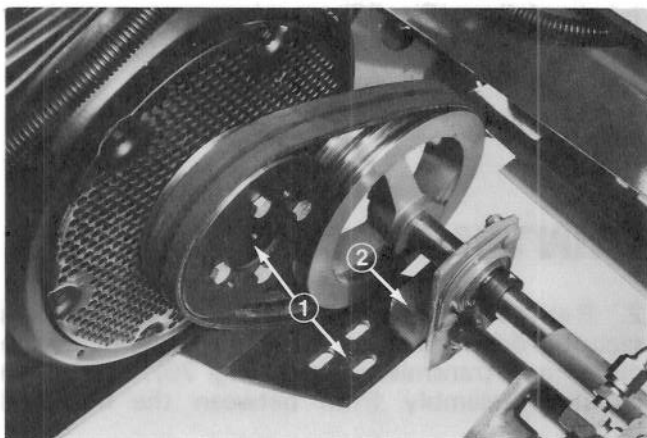
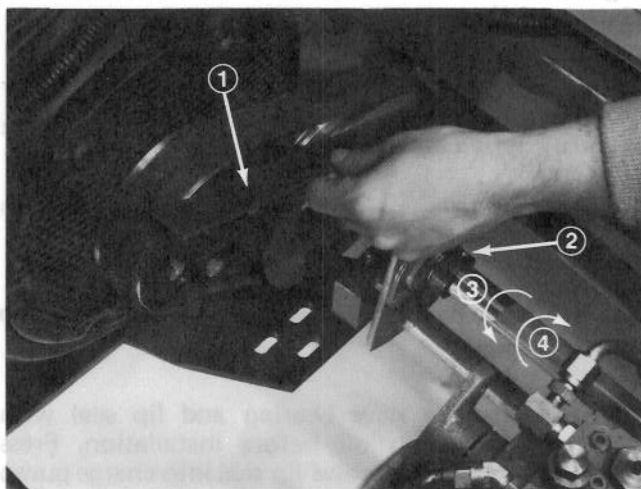

Figure 77
Figure 78
3. Remove three capscrews, flatwashers, lockwashers and nuts securing PTO brake bracket to mounting flange on engine plate (Fig. 77).
4. Remove two capscrews, and lockwashers securing bearing hub to bracket (Fig. 77).
6. Install new belts around the PTO shaft pulley and engine pulley (Fig. 77), engage the PTO lever to tension belt and lay a straight edge along the bottom face of the engine and PTO pulleys to check alignment (Fig. 77). If pulleys are aligned within 1/16 inch (1.6 mm), proceed to step 6. If they are not aligned within 1/16 inch (1.6 mm) loosen locking collars on PTO shaft and shift shaft and pulley until proper alignment is achieved (Fig. 78). Relock collars.